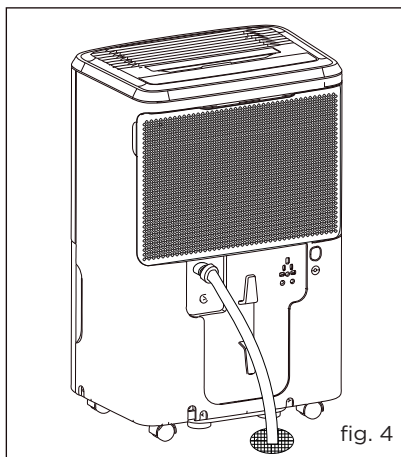

fig. 4
- g. Place the end of the hose into the drain. (fig.4)